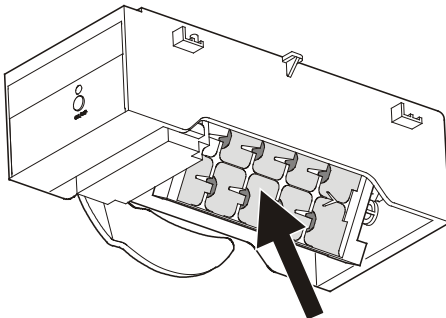

Figure 25
- After this the Ice Maker tray (**Figure 25**) must be emptied. Refer to chapter "Ice Maker at vacations".
In case of longer vacations, the Ice Maker tray (arrow in **Figure 25**) should be emptied.
When the interior temperature appears in the display, the tray is in the down position (**Figure 25**) and the Ice Maker is turned off automatically.